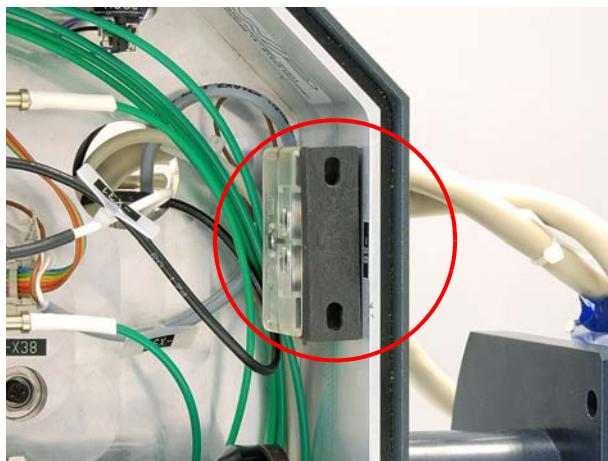

Figure 8.4 Interlock switch bridged
5. Bridge the interlock switch (Figure 8.4).
1. Bridge the interlock switch (Figure 8.4).